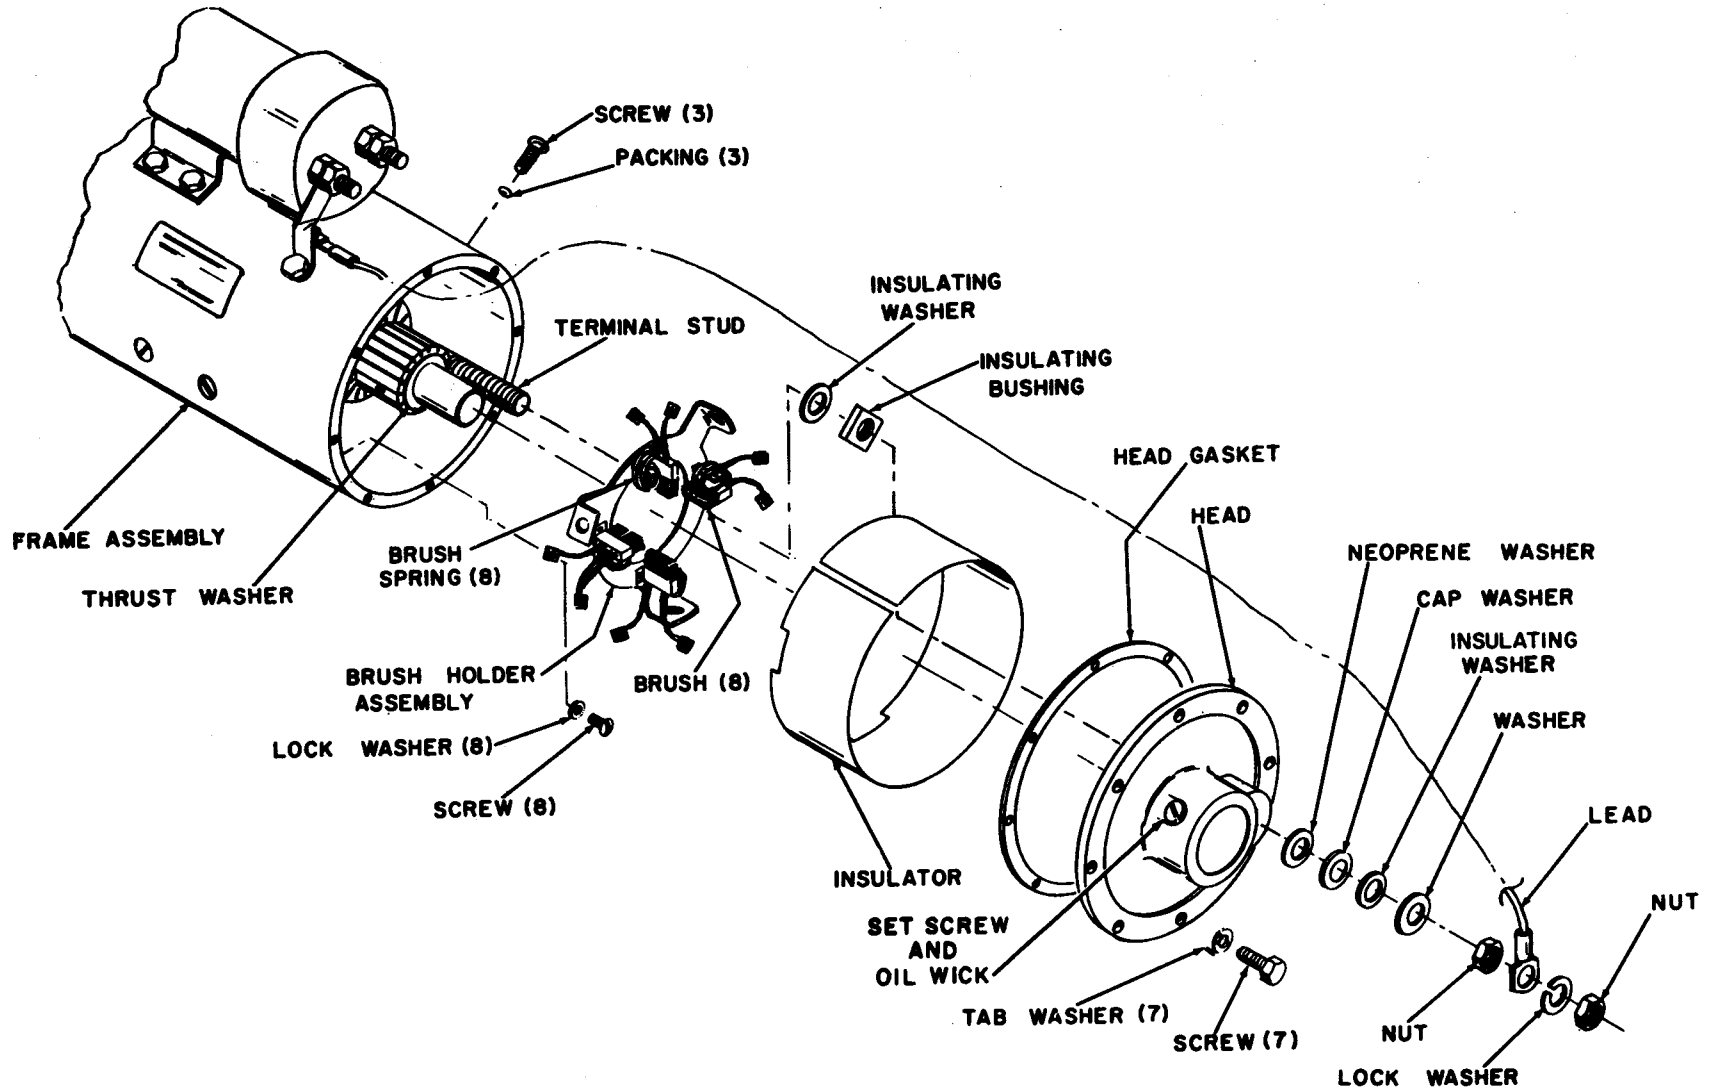

Figure 3-32. Starter brushes, removal and installation
b. REMOVAL. Remove starter brushes as illustrated in figure 3-32, observing the following:
d. INSTALLATION. Install starter brushes as illustrated in figure 3-32, observing the following: